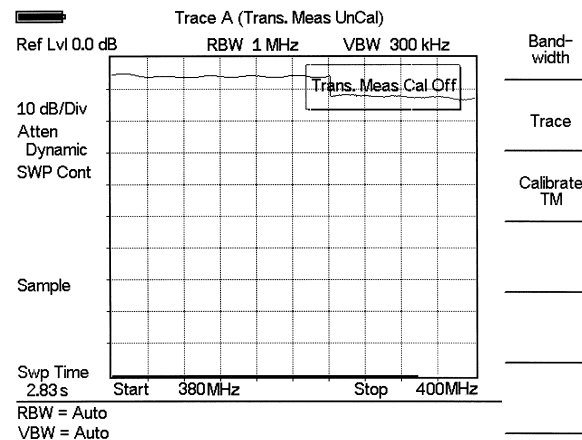

Figure 7-2. Uncalibrated Narrowband Trace
- Step 3.** Following the on-screen prompt, connect a phase-stable cable between the **RF Out** port and the **RF In** port of the MS2711D. If an attenuator is required for the measurement, connect it directly to the **RF Out** port and connect the cable to the attenuator output. The displayed trace before calibration should be similar to the one shown in Figure 7-2.